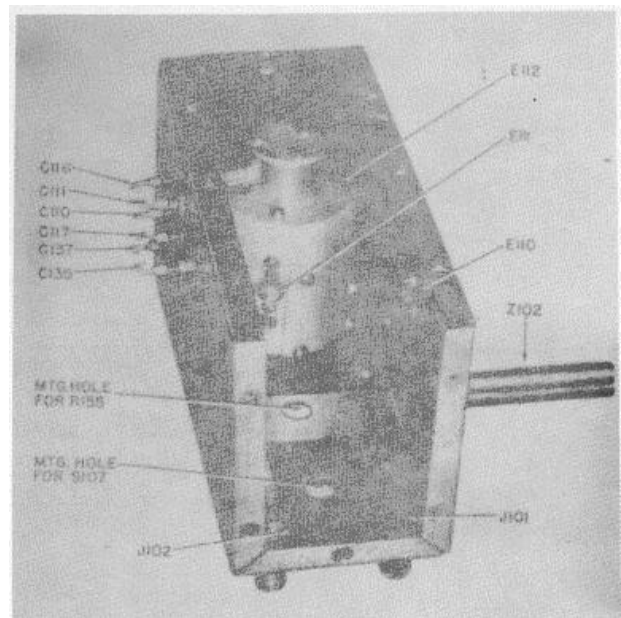

Figure 6-5. Interior View of Buffer Amplifier with Tube Shelf and CARRIER RANGE Switch (S-107) Removed
7. REPLACING BUFFER-AMPLIFIER CIRCUIT COMPONENTS. (See figures 6-5 and 6-6).
The buffer-amplifier compartment is located between the carrier oscillator and audio compartments. It contains the buffer-amplifier (V-104) and RF diode (V-105) circuits in addition to the step attenuator (E-112), MICROVOLTS control (R-155), and CARRIER RANGE switch (S-107). The RF diode, buffer-amplifier circuits and MICROVOLTS control are located on a separate shelf. It is sometimes necessary to remove this shelf when making repairs on the buffer-amplifier compartment. This removal should be accomplished in the following manner (See figures 6-5 and 6-6). Label all leads before unsoldering.